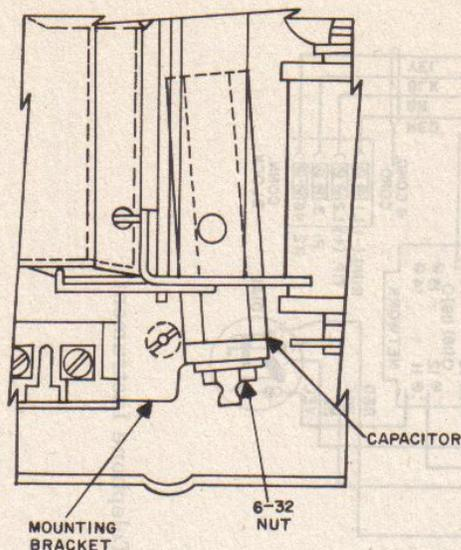

Figure 8. Method of Mounting 1  $\mu$ F Capacitor When Modifying Type 80 Telephone Set With D-38362-A Network.
- (3) Disconnect the three conductors of the standard line cord from the network terminals.
- (4) Loosen the screw holding the line cord retaining clamp to the right rear foot. Free the clamp from its retaining slot and pull the end of the old line cord through the hole in the rim of the base.
- (5) Move the orange hookswitch lead from network terminal 6 to terminal 10 for storage.
- (6) Move the black ringer capacitor lead from terminal 15 to terminal 6.
- (7) Remove the right-hand mounting block, located between the network and the ringer volume control slot and held in place by a screw beneath the base.
- (8) Mount a D-68563-A capacitor (1  $\mu$ F, can-type) onto a D-731517-A mounting block, using a D-7700-A hex nut (6-32), and solder a black spade-ended lead to each of its terminals.
- (9) Install the capacitor assembly behind the network as shown in Figure 8, securing the capacitor bracket mounting block to the base in place of the plain mounting block removed in step (7), and fastening it to the base with the original screw.
- (10) Terminate the two leads from the capacitor on terminals 11 and 13.
- (11) Insert the end of a four-conductor line cord through the hole in the rim of the base at the right rear, and thread the conductors through until they will reach the network terminals. Insert the cord retaining clamp into its slot in the base, compress the cord into the entry channel and tighten the screw securing the clamp to the right rear foot.
(12) Connect the new line cord conductors to the network as follows:
(13) Dress all leads and tighten all network terminals securely.
(14) Set the dial assembly in place on the mounting tripod, so that the tripod pins enter the bayonet slots on the dial bracket. Press inward and upward on the edge of the dial number ring until the pins are seated in the bracket slots. On sets of earlier manufacture, press the bracket inward against the tripod and tighten the shoulder-head screw on each side.
(15) Reposition the housing on the base and tighten the three mounting screws.